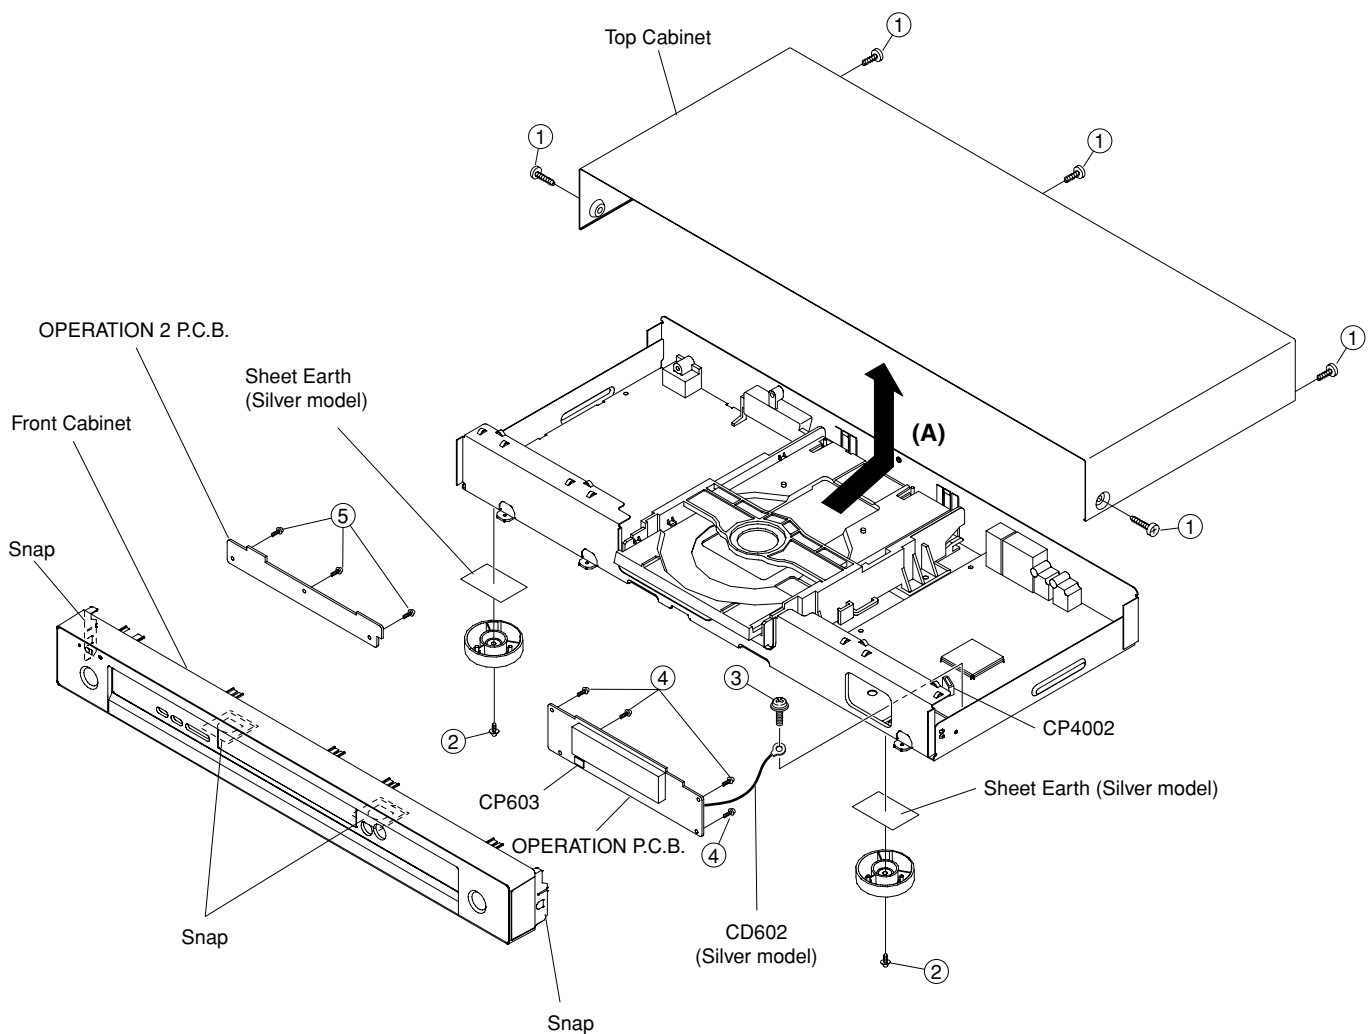

Fig. 2
1. Removal of Top Cabinet (Fig. 2)
- a. Remove 5 screws (①).
- b. Remove the Top Cabinet in the direction of arrow (A).
2. Removal of Front Cabinet . (Fig. 2)
- a. Remove 2 screws (②).
- e. Remove 1 screw (③) and the cable. [CD602] (Silver model)
3. Removal of OPERATION 1 and OPERATION 2 P.C.B.s. (Fig. 2)
- a. Remove 4 screws (④).
- d. Remove 3 screws (⑤).